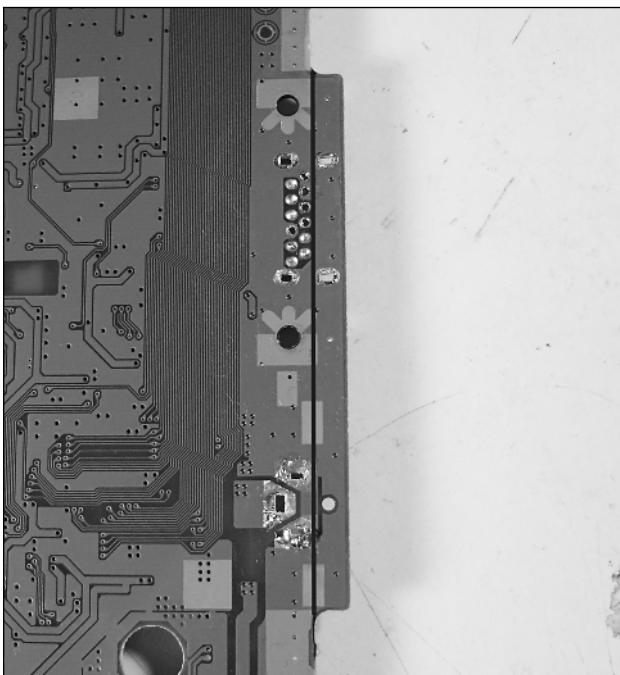

FIGURE 14-19: Where to slice off the top portion of the PSOne board.
1. Using a ruler, make a reference line across the top of the PSOne board across the extended portion near the power and audio/video connections. (See Figure 14-19.)